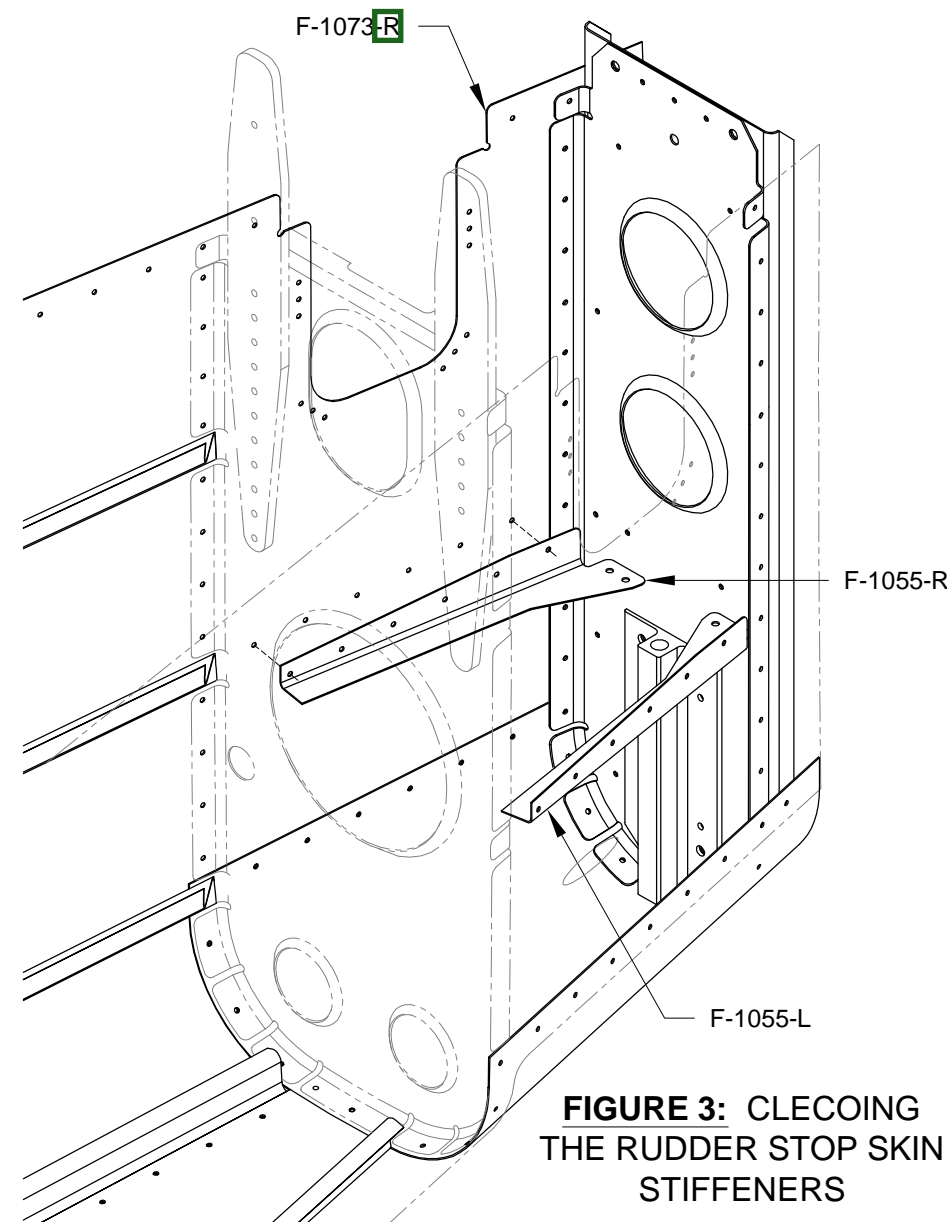

FIGURE 3: CLECOING THE RUDDER STOP SKIN STIFFENERS
Step 5: Cleco the F-1055-R & -L Rudder Stop Skin Stiffeners to the F-1073-R & -L Side Skins respectively as shown in Figure 3.